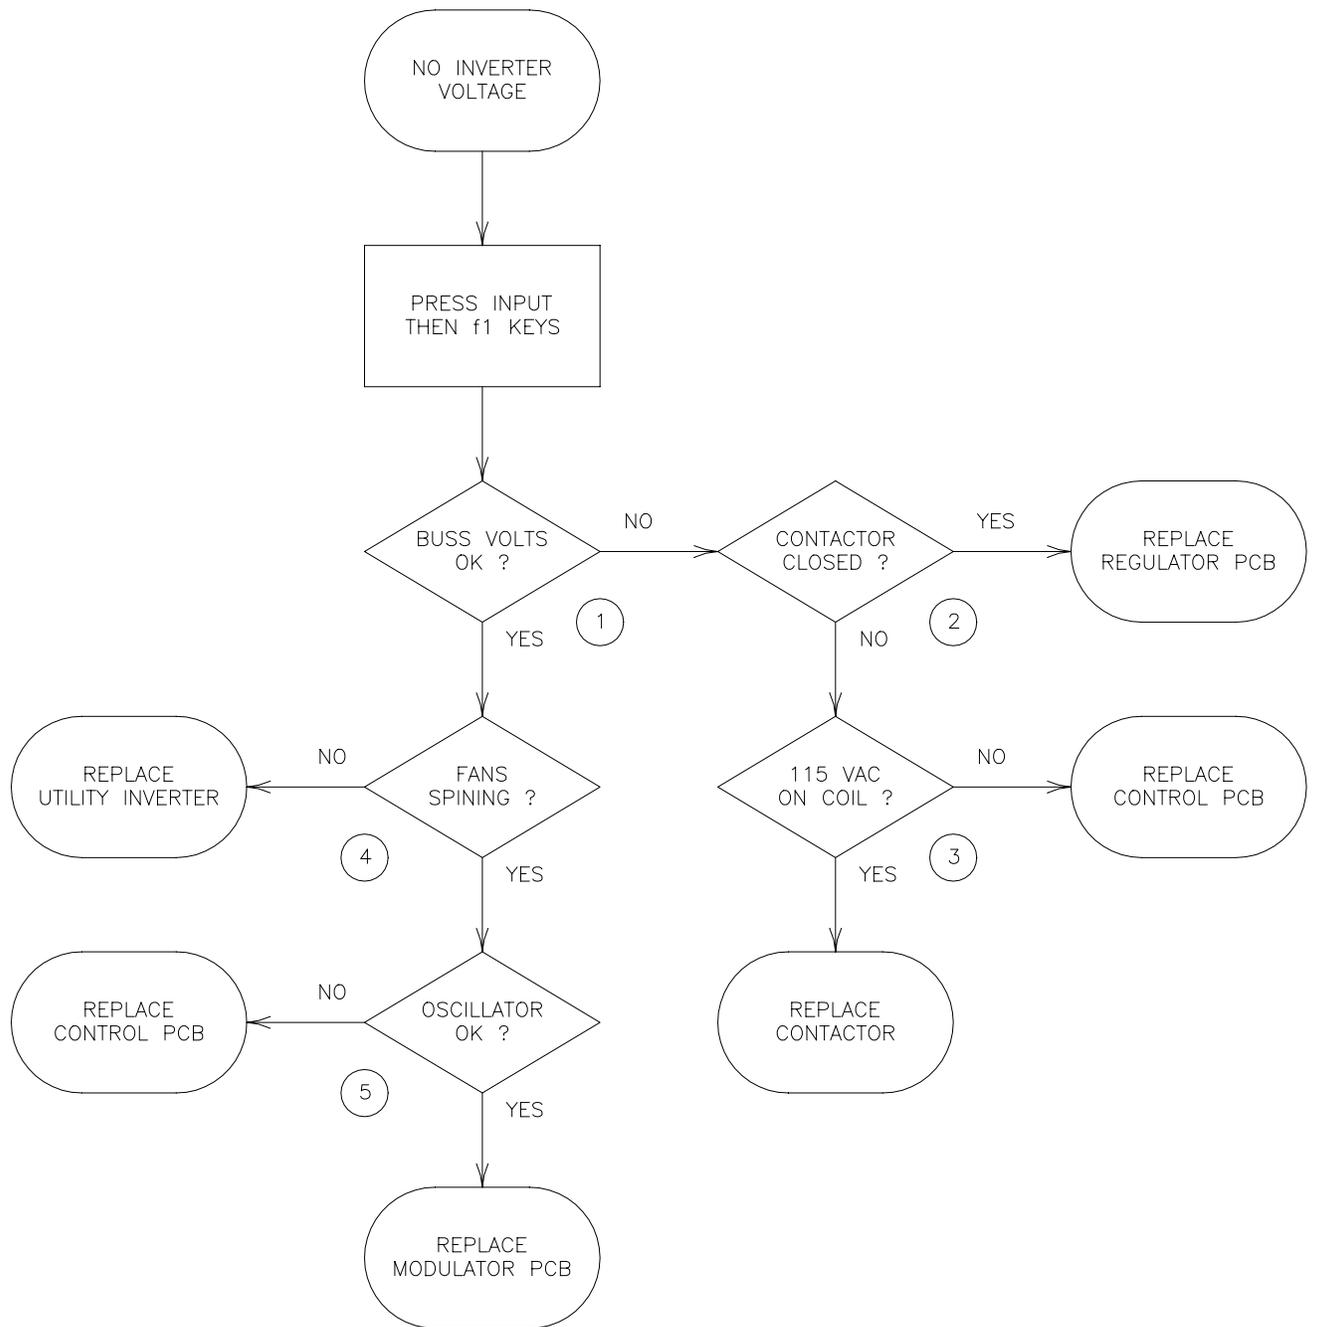

FIGURE 6.3.5 NO INVERTER VOLTS FLOW CHART
5. Pressing the OUTPUT then f2 KEYS shall cause the O2 display to be active. This allows metering of inverter volts or CABINET VOLTS. Verify the power source is in STANDBY or ON mode. Verify CABINET VOLTS are OK. If not go to figure 6.3.5.
The numbered comments below correspond to the circled numbers on figure 6.3.5 and provide detailed instructions relative to the referenced step.